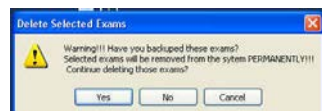

Figure 8.15 - Deleting Exam Warning
3. The Accutome B-Scan Plus will issue a warning shown in Figure 8.15 about deleting the file. Click on "Yes" if you would like to permanently delete the file. Click "No" or "Cancel" if you would like to terminate the delete process.